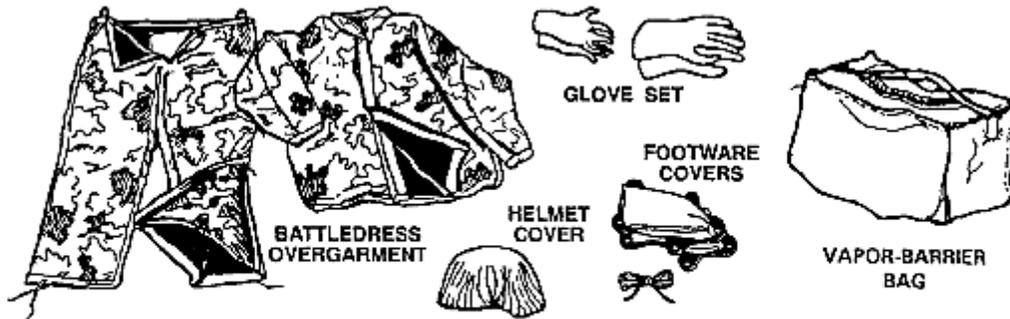

Figure 1-1. Protective ensemble.
**\*\*** The BDO is a camouflage colored, woodland or desert, expendable two-piece overgarment consisting of one coat and one pair of trousers (figure 1-1). The jacket has a zipped front, and the trousers have a fly front and zipped legs. The overgarment material consists of an outer layer of nylon cotton and an inner layer of charcoal impregnated polyurethane foam. Due to heavy impregnation of charcoal, some charcoal may be deposited on skin and clothing under the BDO; however, this will not detract from the BDOs chemical protective characteristics nor harm the wearer. The BDO presently comes sealed in a vapor-barrier bag that protects against rain, moisture, and sunlight. The BDO is water resistant, but not water proof and is normally worn as an outer garment. The BDO is normally worn over the duty uniform; however, in high temperatures it may be worn over underwear. In extreme cold weather environments, the BDO should be
A glove set (figure 1-1) consists of an outer glove for protection and an inner glove for perspiration absorption. The outer gloves are made of an impermeable, black, butyl rubber. The inner gloves are made of thin, white cotton. These inner gloves can be worn on either hand. If either outer glove is punctured or torn, replace the pair of gloves. When engaged in heavy work or during cold weather, soldiers should wear standard work gloves or black shells over the butyl rubber gloves to protect them from damage. The gloves come in three thicknesses; 7, 14, and 25 mil. The 7 mil glove set is used by soldiers such as medical, teletypist, and electronic repair personnel whose tasks require extreme dexterity and/or sensitivity and will not expose the gloves to harsh treatment. The 14 mil glove set is used by soldiers such as aviators, vehicle mechanics and weapon crews whose tasks require dexterity and sensitivity and will not expose the gloves to harsh treatment. Use of more durable 25 mil glove set is for soldiers who perform close combat tasks and other types of heavy labor.
Soldiers wear the chemical protective footwear cover (overboots) (figure 1-1) over their combat boots. The CPFC are being replaced by the GVO/BVOs as stocks become available.
This cover (Figure 1-1) protects the personnel armor-system ground troop (PASGT) helmet from chemical and biological contamination. The cover is a piece of butyl-coated nylon cloth gathered at the edge by an elastic web enclosed in the hem. It is an olive green, one size fits all cover. It is designed to keep chemical and biological agents from penetrating the kevlar helmet and the helmet cover.